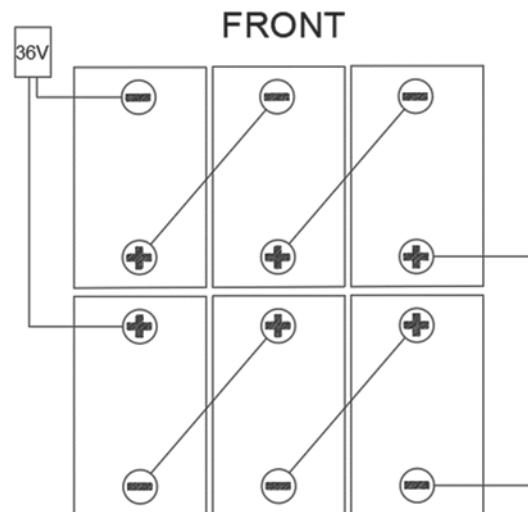

Figure 5
The machine requires six 6V batteries, connected and installed in the positions shown in Figure 5.
- The machine is supplied with cables suitable to install six 6V batteries. Carefully put the batteries into the compartment, then install them correctly as shown in Figure 5. Put the battery fixed plate correctly.
8. Route and install the battery cable as shown in Figure 5, then carefully tighten the nut on each battery terminal.